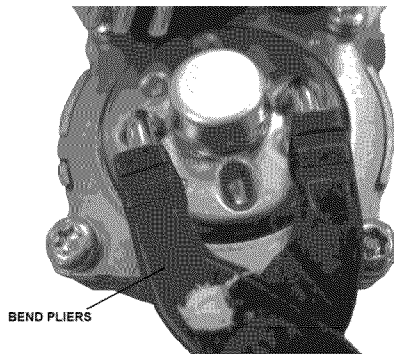

Figure 6
17. Position a pair of bend pliers into the slots of the cover dial. See *Figure 6*.